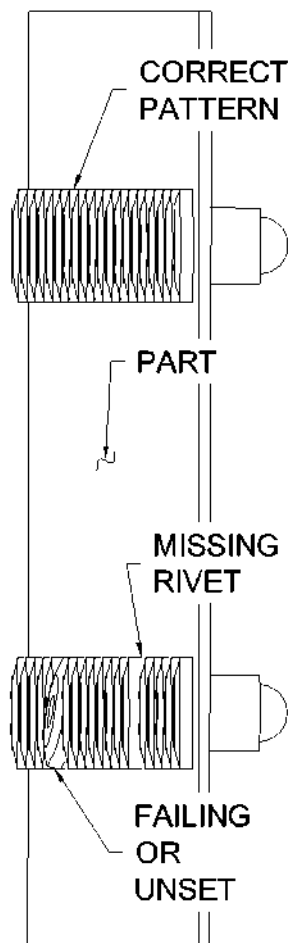

Figure 6: Rivet Inspection
- Inspect the exterior of the fuselage skins and fasteners. Check the fasteners by sighting along each rivet pattern for any inconsistent rivet profile among properly installed rivets as shown in **Figure 6**.